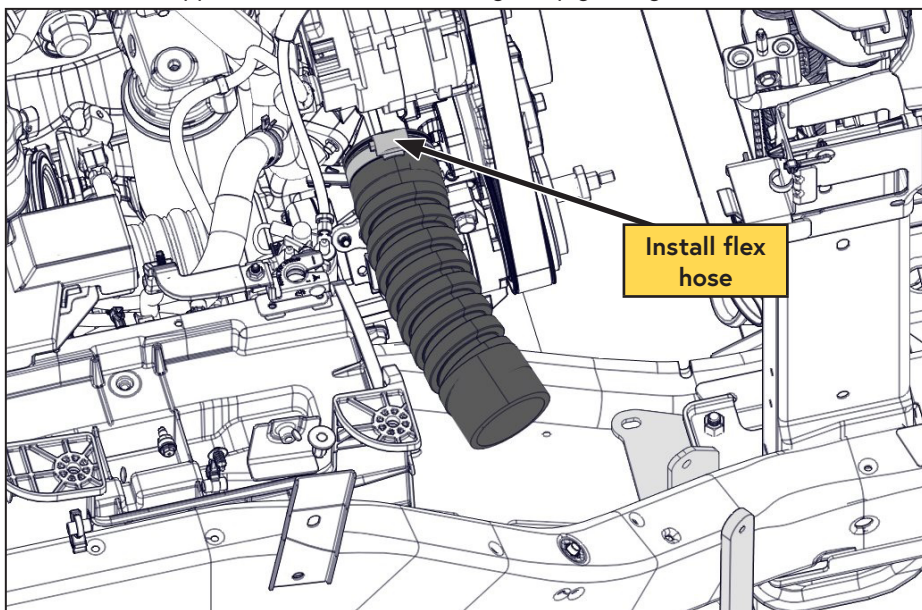

Figure 33 — Install flex hose
- ☐ Install the supplied flex hose onto the engine spigot (Figure 33).